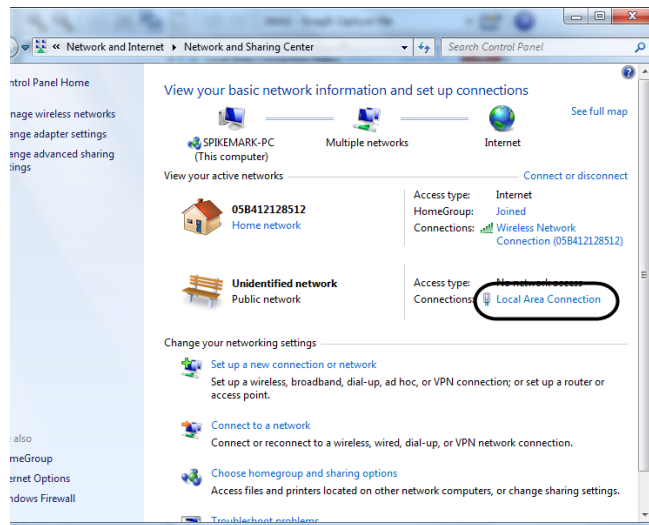

Figure 22
4. Click on the **Local Area Connection** link (Figure 22).